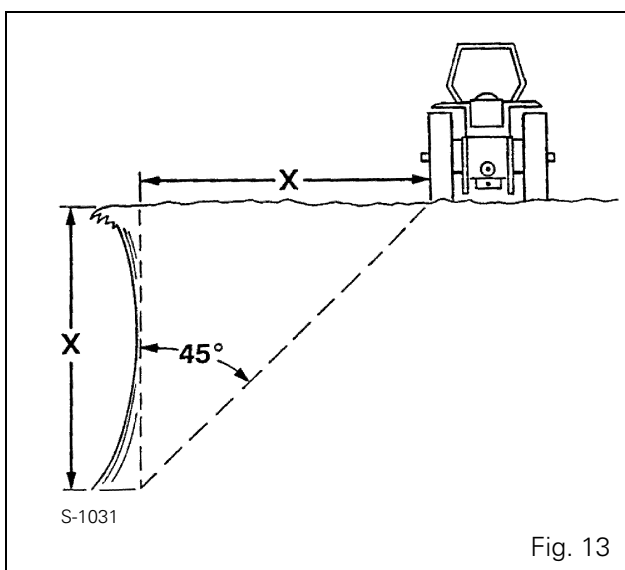

Fig. 13
Fig. 13: Do not work near the edge of ditches or banks. The distance from the edge should always be equal to or greater than the height of the bank, to prevent it from collapsing.
- Avoid steep slopes whenever possible. If this is not possible, avoid holes and dips when driving downhill. Avoid stumps, stones, bumps and raised areas when driving uphill. Keep the tractor behind the shear line when working close to ditches or embankments (Fig. 13). Avoid ditches, embankments and river banks which might give way.